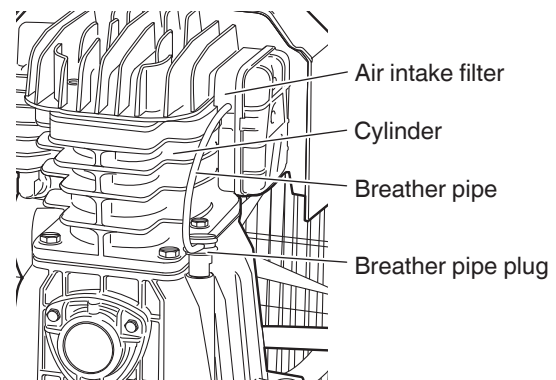

Fig. 6
- E) Insert the accessory Brether pipe into the air vent of the Breather pipe plug and the hole of the air intake filter. (Fig. 6)